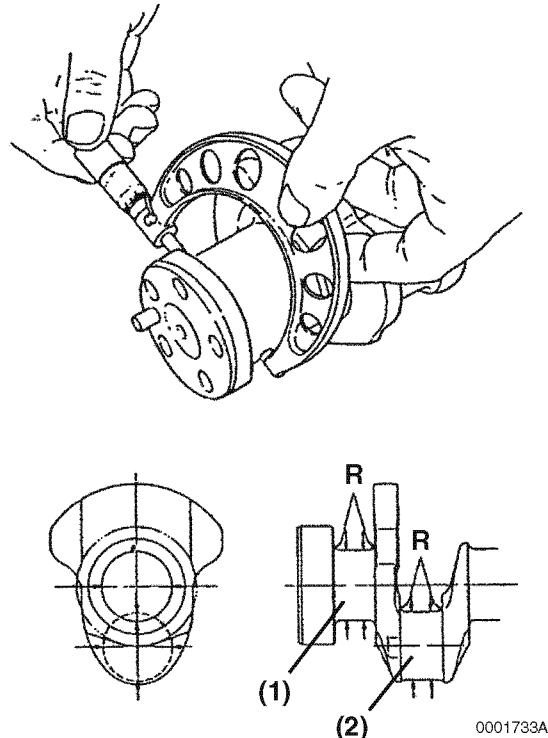

Figure 6-123
5. Measure the outside diameter of each crankpin (**Figure 6-123, (2)**) and main bearing journal (**Figure 6-123, (1)**). See *Crankshaft* on page 6-12 for specifications. Take measurements at several places around each bearing surface. If not within specification, grind the journals and install undersize bearings, or replace the crankshaft.